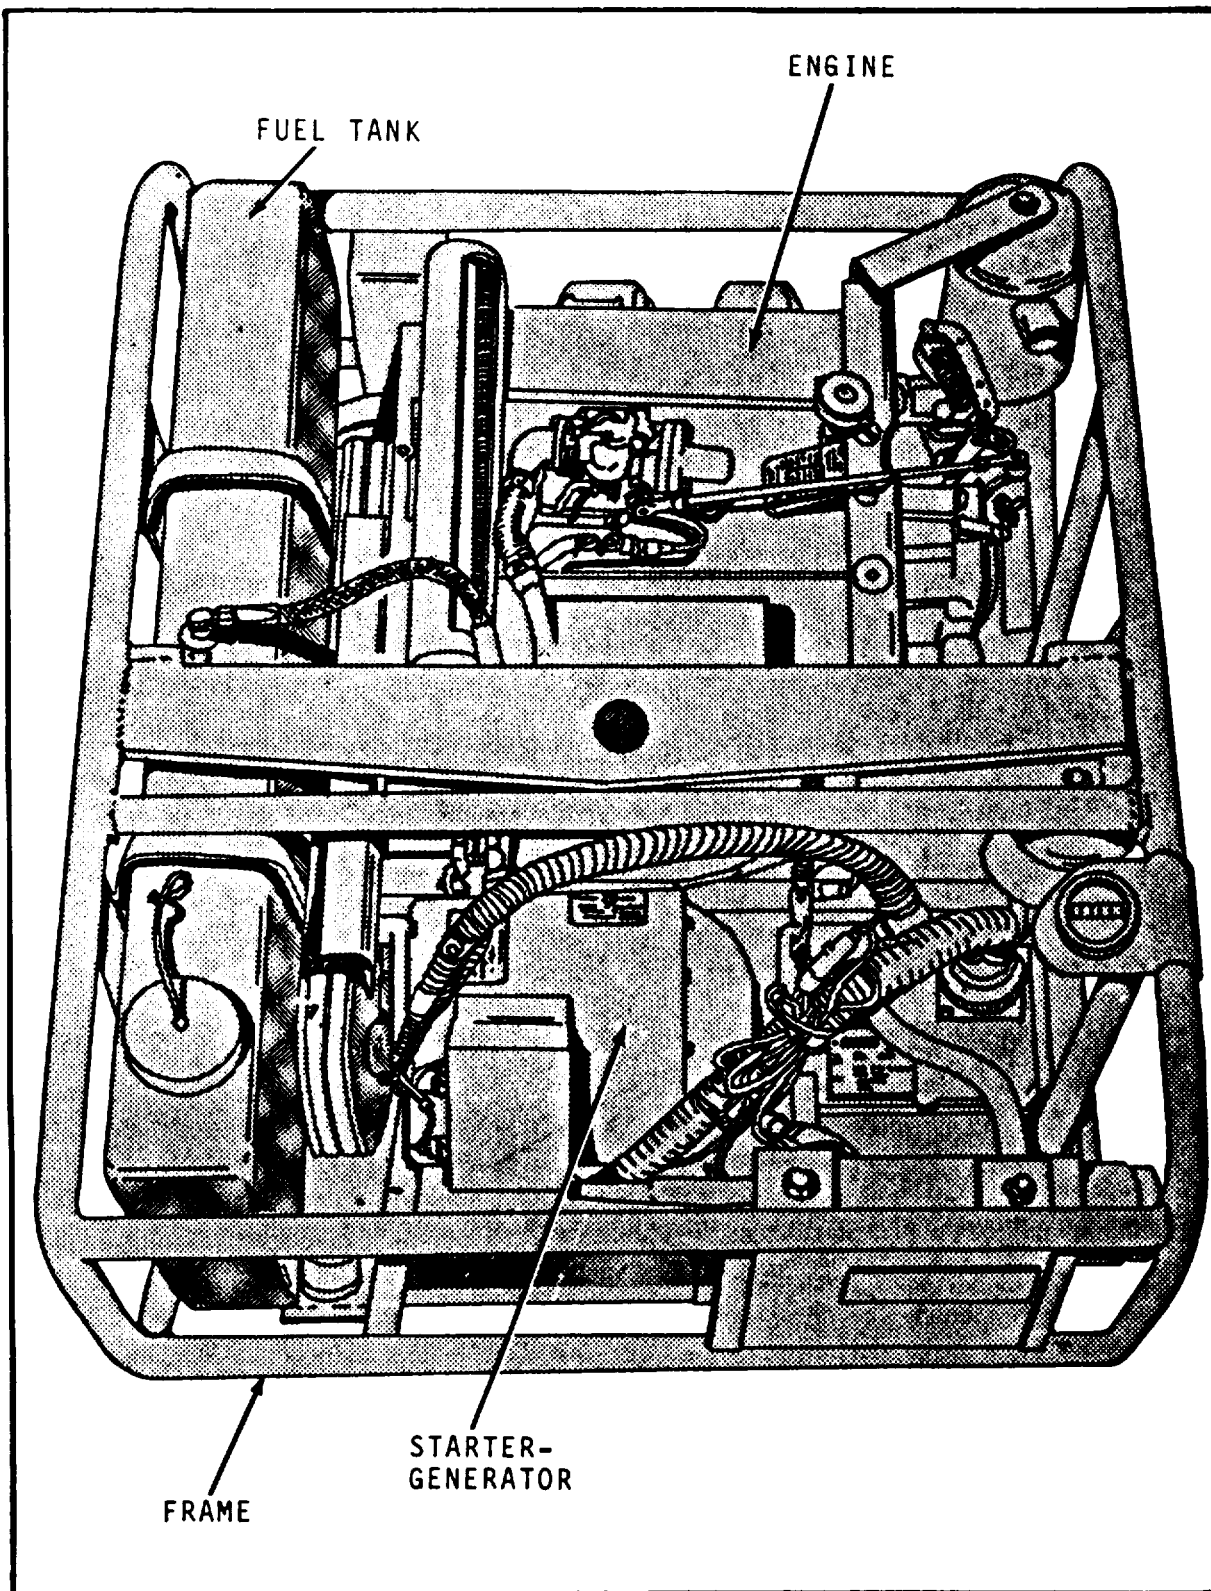

Figure 1-1. Generator set, 4.2 KW.
a. This technical manual contains instructions for operation, organizational maintenance, and direct and general support maintenance of the Generator Set: Gasoline Engine Driven, 4.2 Kilowatt, 150 Amperes, 28 Volt, Direct Current (Model DC 4.2 -ORD/28), see figure 1-1 or 1-1.1. The instructions for direct support maintenance disassembly, cleaning, inspection, repair and assembly of the starter-generator are also used to repair starter-generator 12345177 (19207).
(1) Carrier, Command Post, Light, Tracked, M577-2320-856-6624.
(2) Carrier, Command Post, Light, Tracked, M577A1-2320-056-6808.